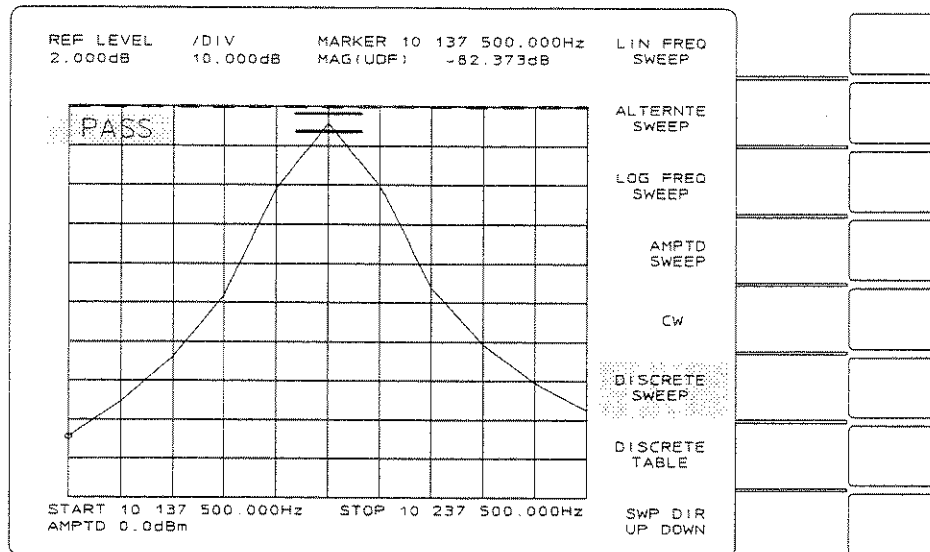

Figure 2-31B. Discrete Sweep Display
- Press [RETURN] and observe the discrete sweep display as shown in figure 2-31B.